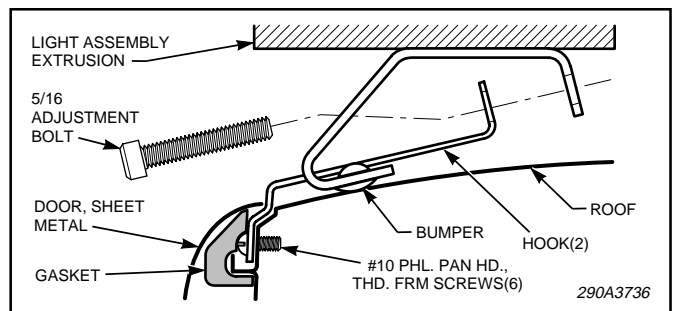

Figure 1.
2. See figure 1. Determine where the hook will attach to the vehicle.
3. Slide the door gutter gasket off the roof sheet metal just enough to place the hook in position. Place the hook in position on the roof sheet metal as shown in figure 1.
5. Drill three (3) .147" diameter holes (#26 drill bit) at the marked locations.
7. Secure the hook using the three sheet metal screws provided (#10 thread-forming) as shown in figure 1.